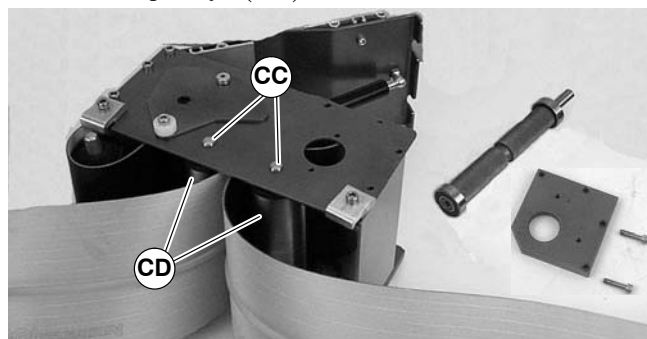

Figure 47
- For 5” (127 mm) or wider conveyor, depress both sides of each spring-loaded shaft (CC of Figure 47). Remove pulleys (CD).